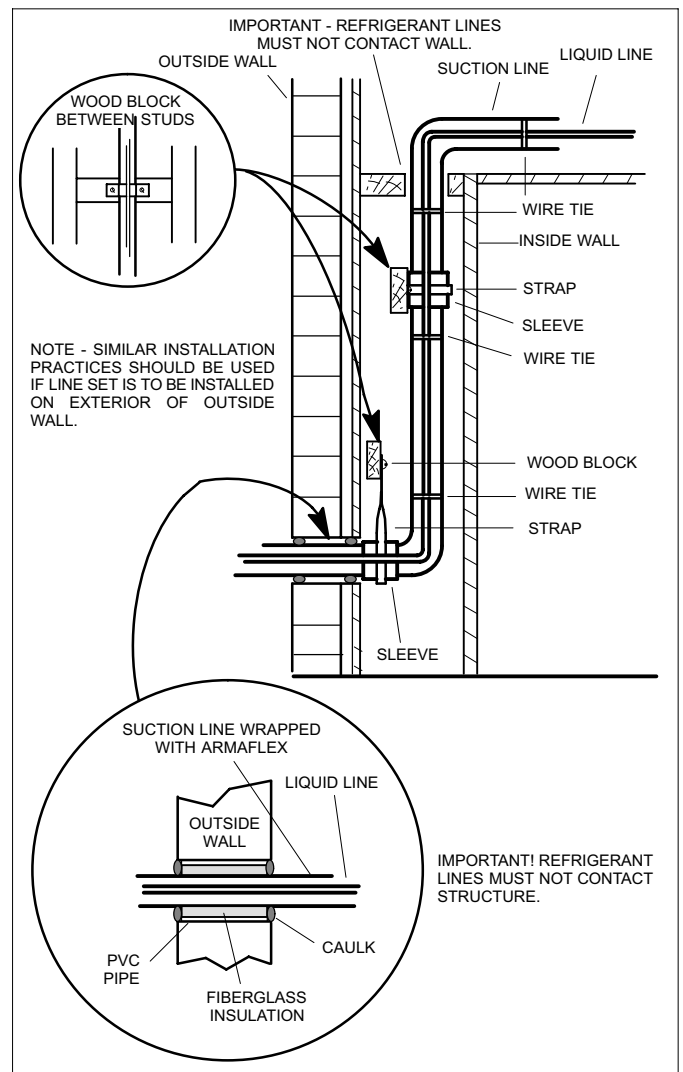

Figure 16. Refrigerant Line Set: Installing Vertical Runs (New Construction Shown)
- Installation of line set on vertical runs is illustrated in figure 16.